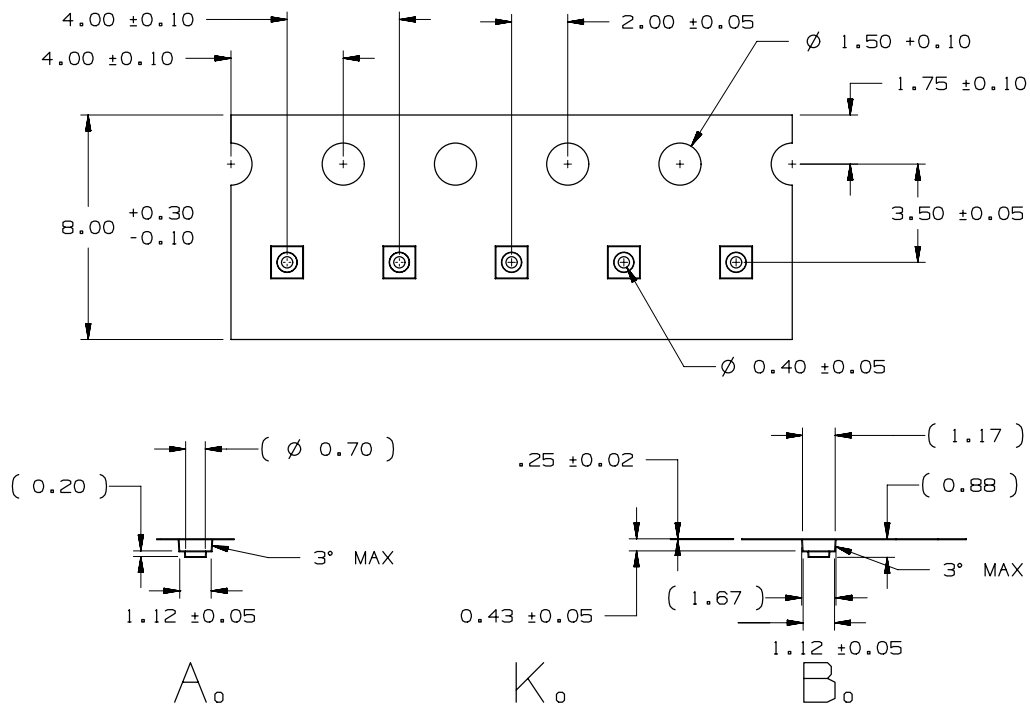

Figure 13. Pocket tape dimensions for LUXEON UV FC Line.
- Notes for Figures 13 and 14: